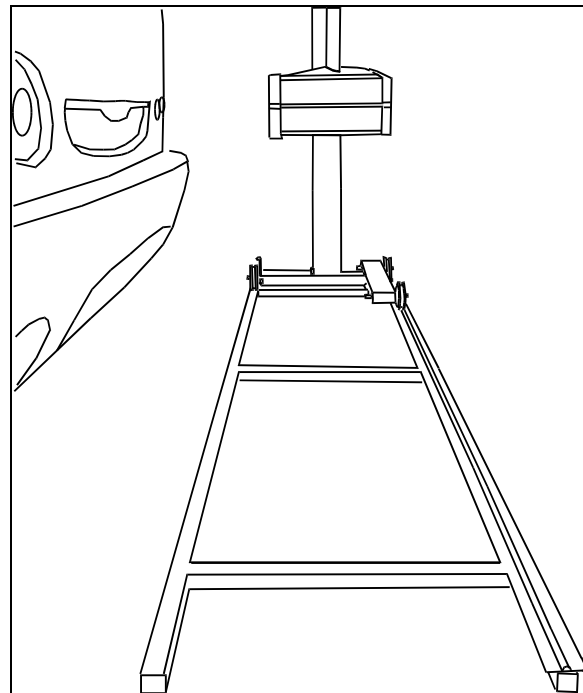

FIGURE 27: INSTALLATION OF HOOPY 100 ALIGNER 06496
5. Install "Hoopy 100" Aligner onto support rail (Fig. 27).
- Install “Hoopy 100” Aligner onto support rail (Fig. 27). Turn aligner ON.